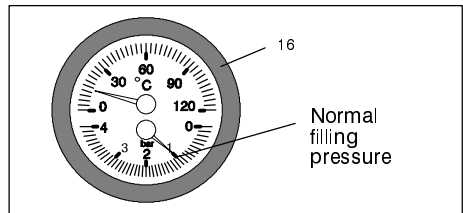

fig. 2.2
Ensure that the heating circuit is regularly filled with water (even if the boiler is only used for domestic hot water supply) checking that the pressure indicated on the temperature and pressure gauge (16) is not lower than that shown in fig. 2.2.
If the pressure reading on the pressure gauge is below that shown in fig. 2.2, than the system will require topping up. A filling loop is normally provided by the installer for this purpose.
- 2 Open the valves of the filling loop and watch the gauge until it reaches normal filling pressure as shown in fig. 2.2.